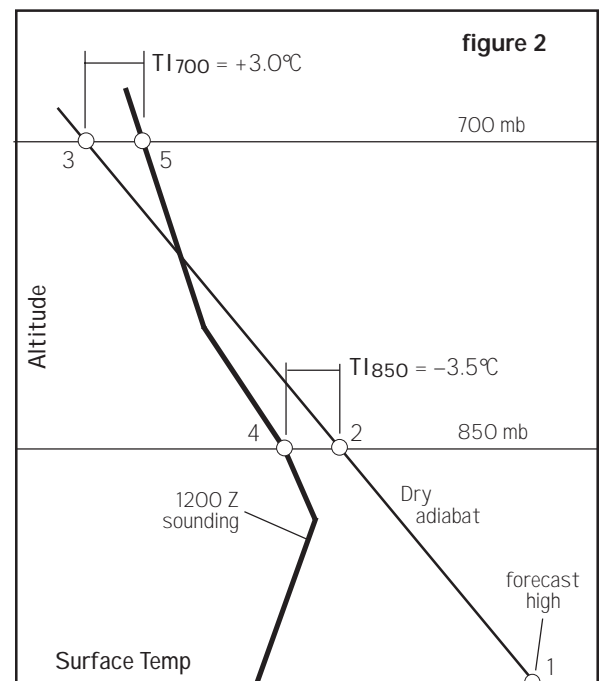

figure 2
Thermal Index (energy potential) – figure 2
On the temperature sounding plot, mark the temperature at the 850 mb and the 700 mb levels and obtain the maximum forecast surface temperature together with airfield station pressure in millibars. Then plot these as shown on figure 2 on the Stueve diagram. The maximum forecast high temperature for the airfield is moved upwards along the dry adiabat to the 700 mb level. The temperature where the dry adiabat intersects the 850 mb level (2) is subtracted algebraically from the environmental (sounding) temperature (4). This is the 850 mb TI (-3.5). Proceeding the same at the 700 mb level (3), you obtain (5) the TI of +3.0 for this level.